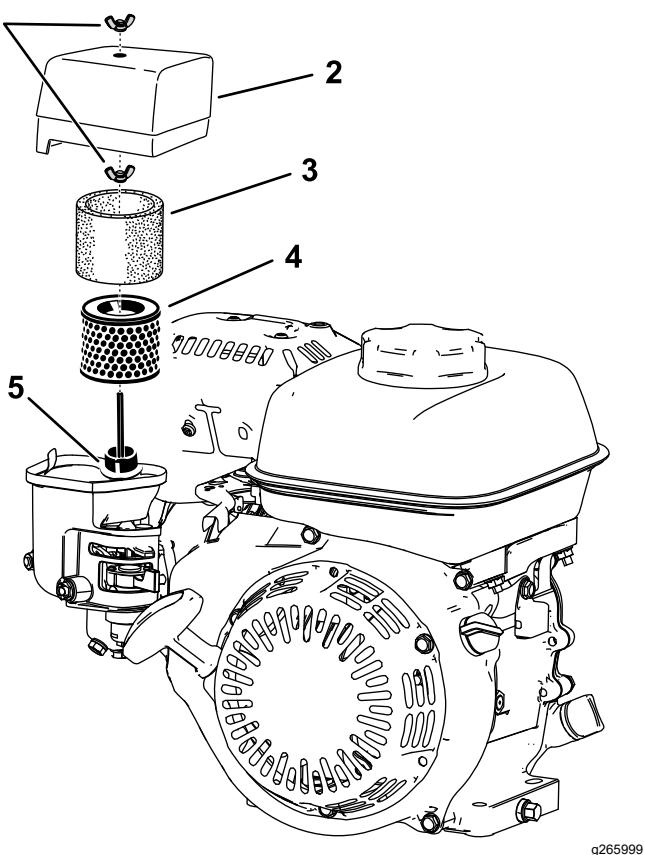

Figure 19
2. Remove the wingnut securing the air-cleaner cover (Figure 19).